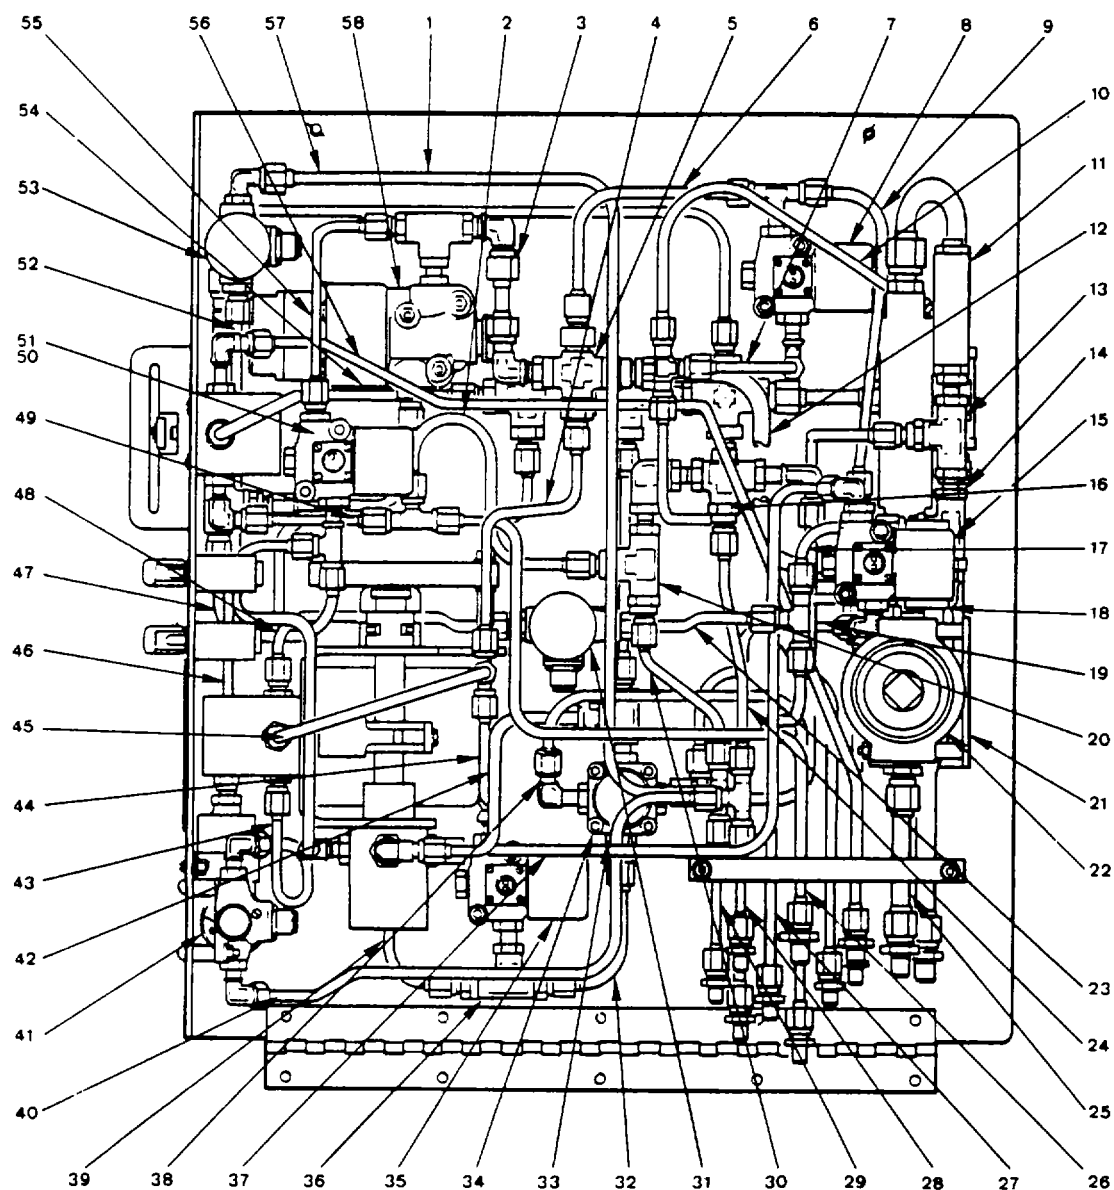

Figure 3-82. Hydraulic Control Console - Bottom View (Sheet 1 of 3).
a. *General.* Figure 3-82 shows the hydraulic controls console in the open position and identifies each major interior component. Refer to this illustration for general orientation and identification of parts during disassembly and assembly procedures. Following figures isolate the pressure, return, roll, elevation, extension, azimuth, and thermal relief systems of the hydraulic console. Refer to these figures for specific orientation of parts installed in each of the systems. Complete disassembly procedures for the hydraulic controls console assembly are not provided. Remove components only as necessary to provide access to components to be inspected or replaced. Removal of rigid tube assemblies is considered straightforward and therefore no procedures are included. Only those procedures necessary to remove major components from the console assembly are included.
(1) Place loader in park position. Refer to TM 9-1450-500-10.